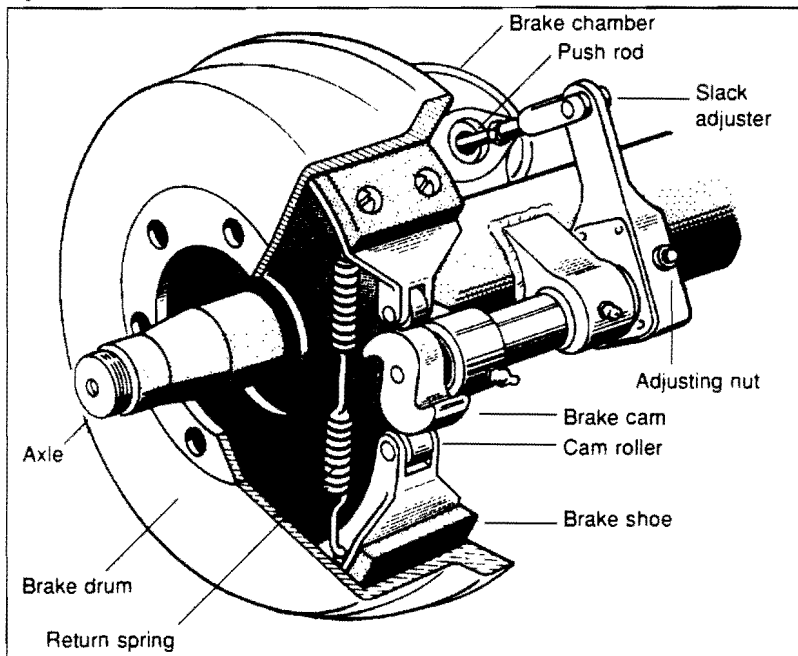

Figure 5-2
Foundation brakes are used at each wheel. The most common type is the S-cam drum brake, shown in Figure 5-2. The parts of the brake are discussed below.
**S-Cam Brakes.** When you push the brake pedal, air is let into each brake chamber (see Figure 5-2). Air pressure pushes the rod out, moving the slack adjuster, thus twisting the brake cam shaft. This turns the S-cam (so called because it is shaped like the letter "S"). The S-cam forces the brake shoes away from one another and presses them against the inside of the brake drum. When you release the brake pedal, the S-cam rotates back and a spring pulls the brake shoes away from the drum, letting the wheels roll freely again.